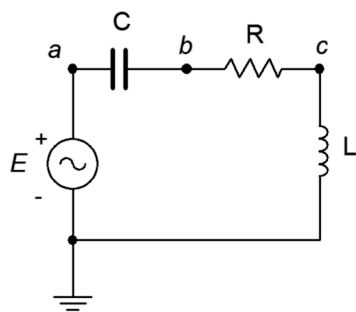

Figure 2.21
37. For the circuit of Figure 2.21, find v_b and v_{ac} . The source is a 50 volt peak-peak sine at 10 kHz, $R = 100\ \Omega$, $C = 200\ \text{nF}$ and $L = 1\ \text{mH}$.